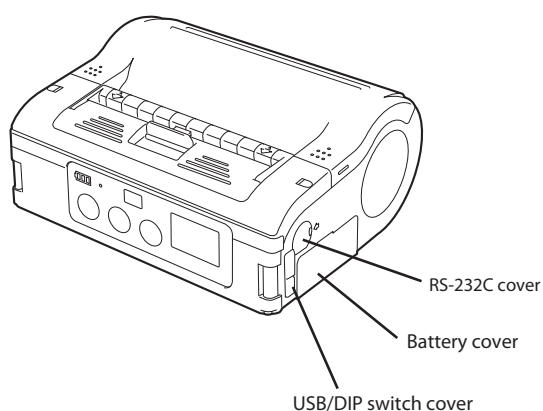

Figure 4-3, Location of DIP Switch Cover
1. See USB/DIP switch cover in Figure 4-3. Orient the printer with the USB/DIP switch cover facing you.